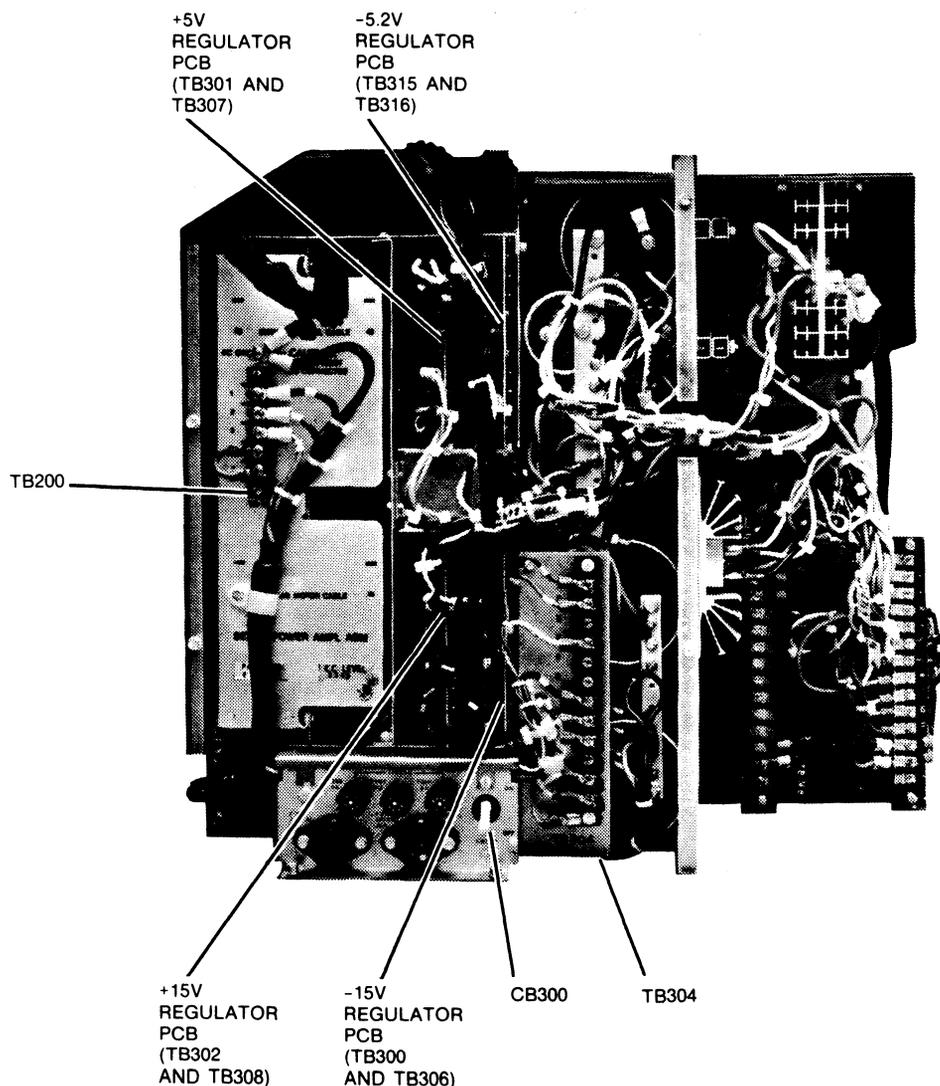

FIGURE 2-7. REAR VIEW, POWER SUPPLY COVER OFF
2. Check TB304 located on the front of the power supply, at the rear of the drive (see Figure 2-7).
3. Check four regulator PCBs, located in the power supply (see Figure 2-7).
4. Check TB200 on the servo power amplifier (see Figure 2-7).
Verify greater than two megohms resistance between the ground terminal on TB304 (Figure 2-7) and the frame.
1. Set CB300 on the power supply to ON (see Figure 2-7).